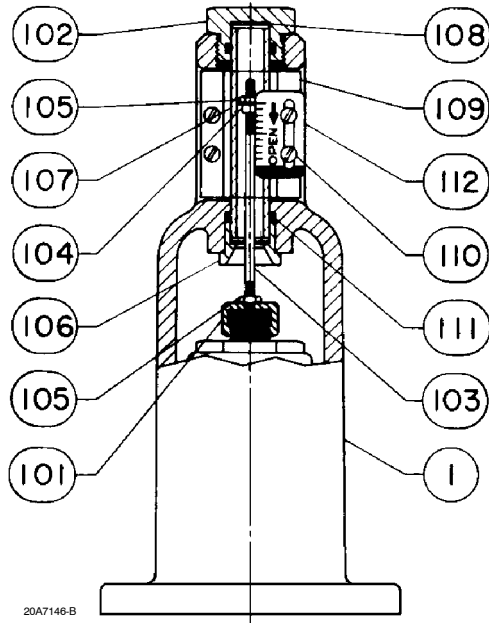

Figure 5. Travel Indicator Assembly
**If the regulator has an indicator assembly, perform the following step carefully to avoid bending the travel indicator stem (key 103, figure 5).**
**The O-rings and gaskets (keys 111 and 108, figure 5) in the indicator assembly are static seals and need not be disturbed, unless they are leaking.**
2. Remove the four cap screws (key 58, figure 9) and lift off the spring case (key 1, figure 9). Remove the travel indicator stem, if any, by unscrewing the indicator stem adapter (key 101, figure 5).
14. Install a new spring case gasket (key 57, figure 9), the spring case, and the four cap screws, making sure the indicator stem, O-ring, and gaskets (keys 103, 111, and 108, figure 5) are installed if used.
## Travel Indicator Assembly (figure 5)